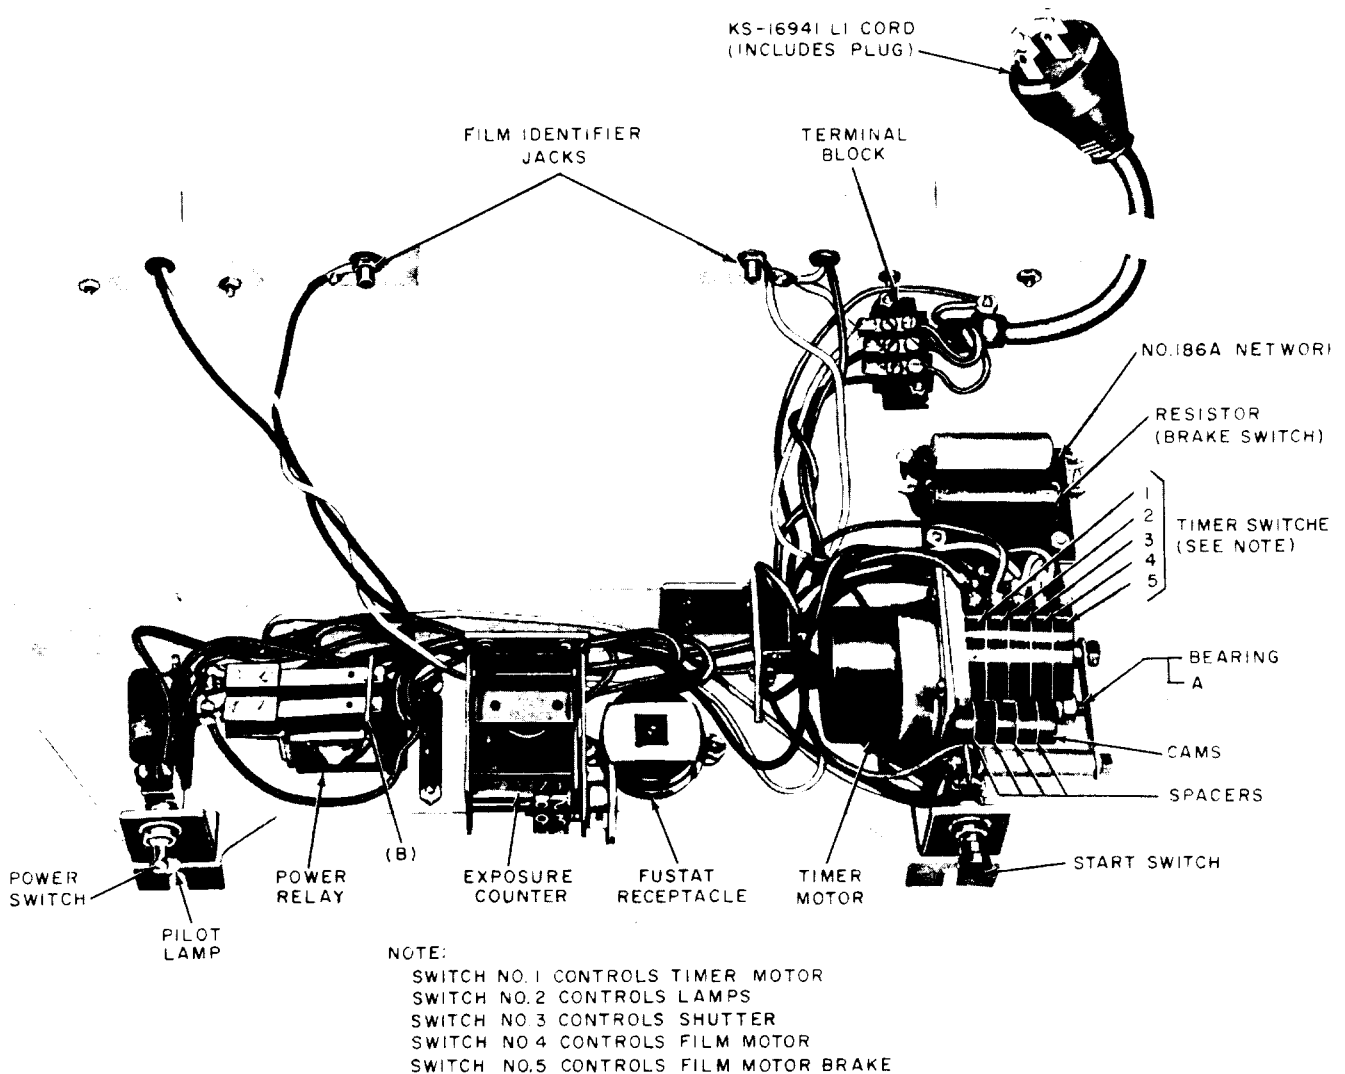

Fig. 9—KS-14776 Camera Chassis Removed From Hood
***2.11 Power Relay Requirements:** Fig. 9, (A)
***2.12 Operation of Timer Switches:** Fig. 9—The contacts of each switch shall operate when the switch actuator is